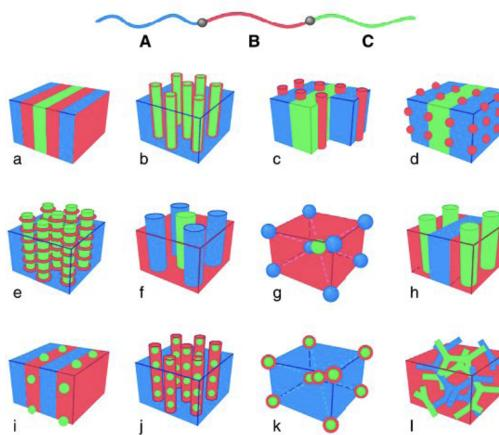

Figure 2.12: Self-assembly of an ABC triblock copolymer.
- If we have something like (a) of Figure 2.12, then we probably have $N_A = N_B = N_C$ (because everything is nice and equally ordered) and $\chi_{AC} < \chi_{AB} \approx \chi_{BC}$ (because we have AB and BC interfaces, but not AC interfaces).
- If we can do everything in Figure 2.12 with 3 things, imagine how much we can do with the 20 amino acids!
- **Min-max principle:** Phases are most stable when we (1) minimize interfacial energy and (2) maximize the conformational entropy of the chains.